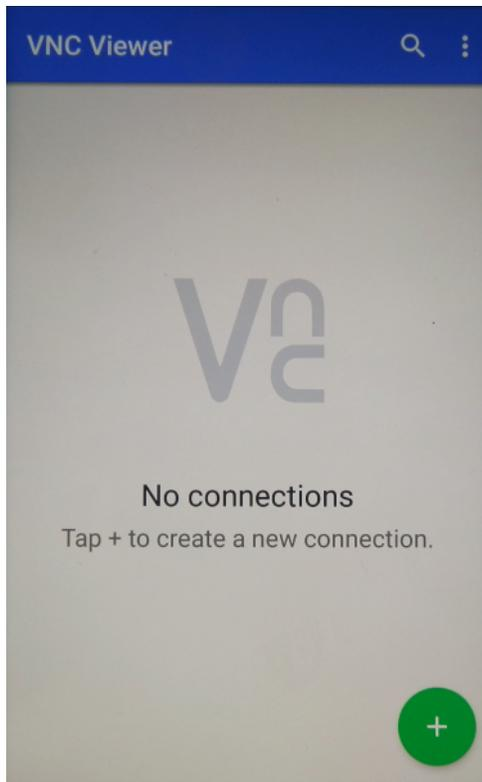

Figure 15: No Connections
3. When VNC cannot determine the source server from its database, it displays a *No connections* message, as shown in Figure 15: Tap or click the + symbol.